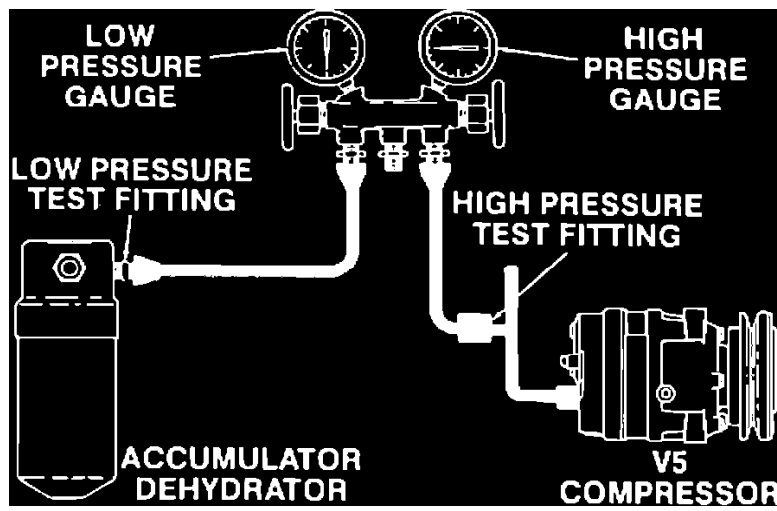

FIGURE 1 - TESTING HOOKUP
1. Connect manifold gage set (Figure 1) to system high and low gage fittings. Check that refrigerant charge is 50 psi minimum before continuing quick check procedure.